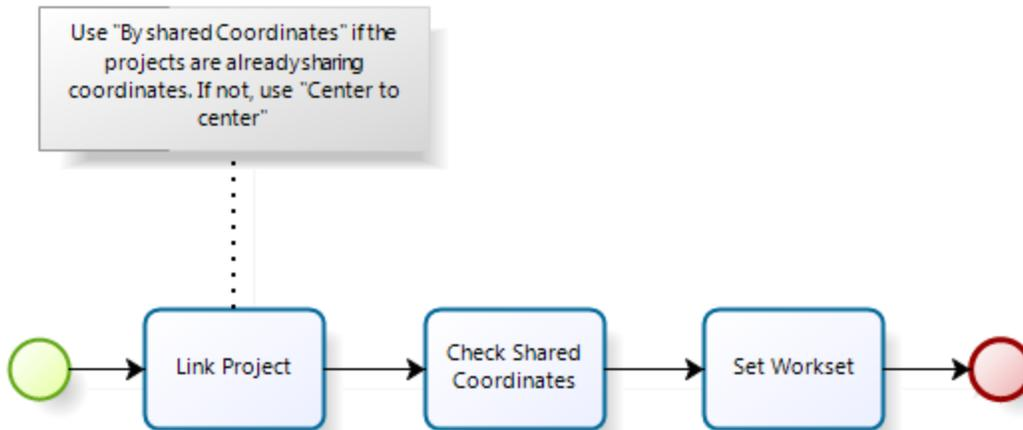

Figure 5: Link creation diagram.
**Create Links:** all discipline files should be linked to the other files of the same area (or sub-area) so designers can collaborate in real time. Each linked project must use Shared Coordinates and be assigned to the Links workset created in the previous step. The link process is demonstrated in Figure 5.